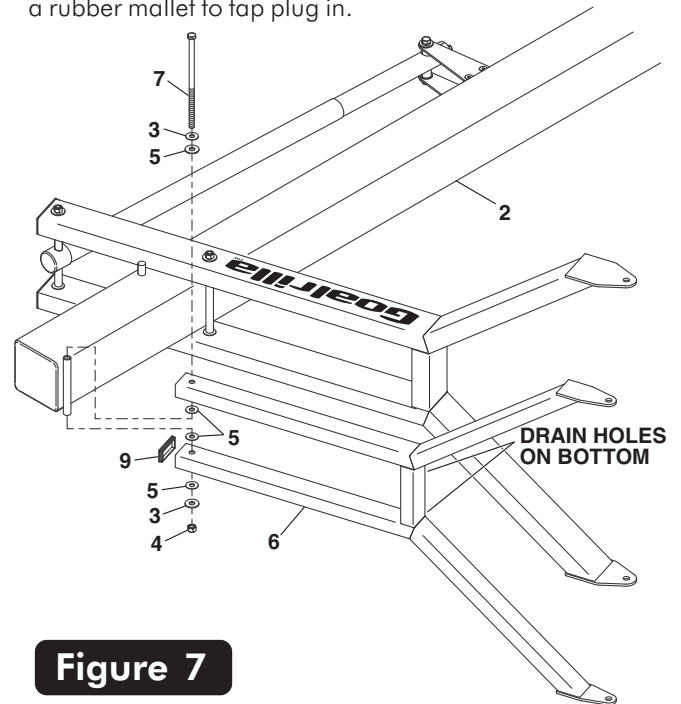

Figure 7
8. Attach Upper Arm (#6) to Pole (#2), as shown in Figure 7, using a bolt (#7), two flat washers (#3), four plastic washers (#5) and hex nut (#4).